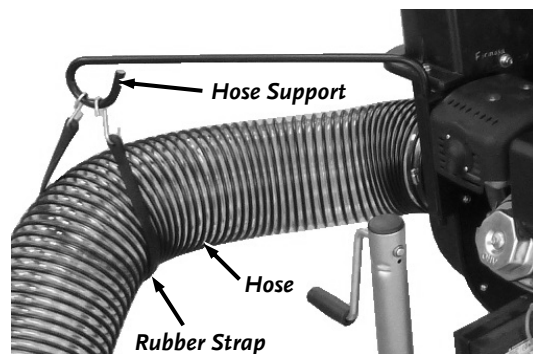

Figure 22
4. Support the Hose with the Rubber Strap by hooking one end into the Support Loop, going under the Hose and securing the other end onto the Support Loop (**Figure 22**).